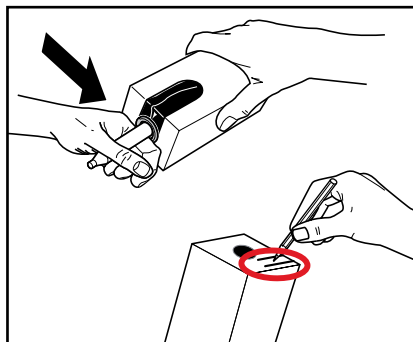

Fig. 19
4. Remove the plastic wrapper and write the „Expiry date“ on the product pack. (Fig. 19)
5. Follow the instructions on the product pack to open the doser. (Fig. 19)